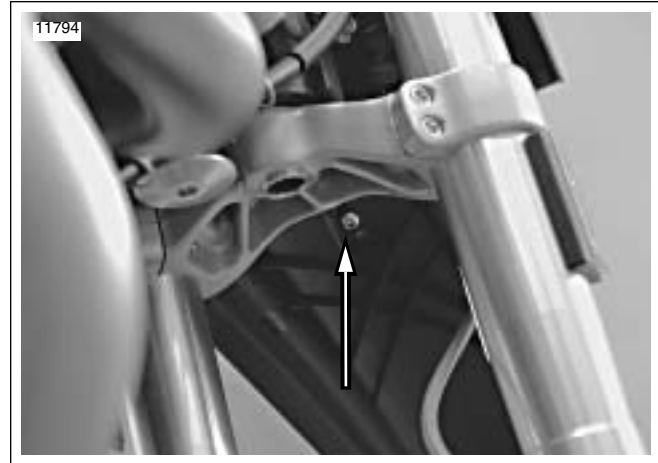

Figure 1-60. Vertical Headlight Adjustment Screw
See Figure 1-60. Loosen fastener on the bottom of headlight housing to adjust the vertical alignment.
- See Figure 1-60. The vertical headlight adjustment screw is located under the front upper fender.